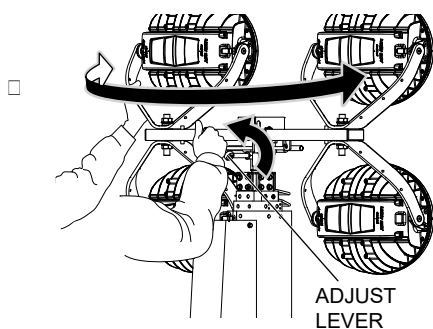

Figure 11. Turning All Lamps In One Direction
1. Loosen the adjust lever and turn the lamp stand to desired direction (Figure 11).